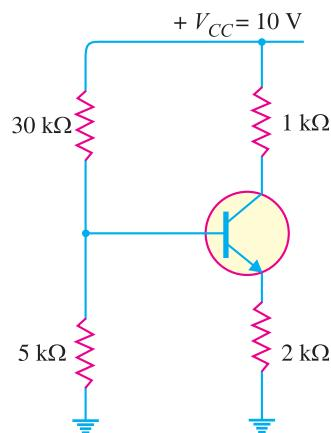

Fig. 9.51
8. In a transistor circuit shown in Fig. 9.51, find the operating point. Assume silicon transistor is used. [IC = 0.365mA, VCE = 8.9V]